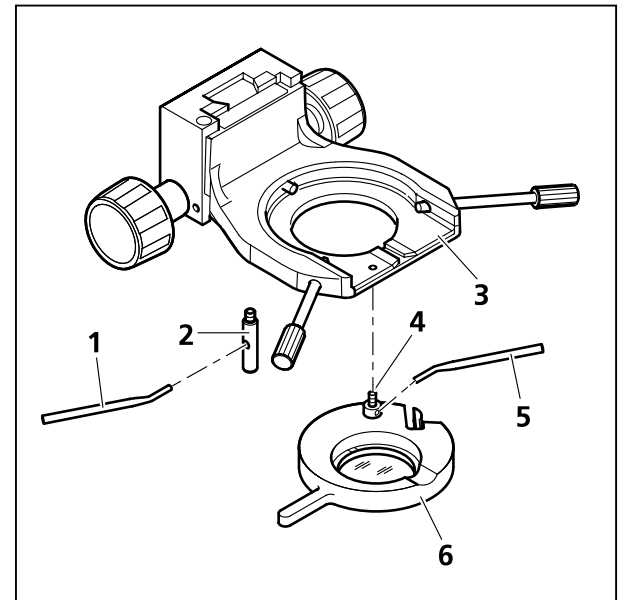

Fig. 3-47 Mounting the polarizer D
- For an easy assembly, remove the condenser carrier (Fig. 3-47/3) fully, with the stage carrier.
- Hold the polarizer or filter holder (Fig. 3-47/6) parallel to the bottom of the condenser carrier (Fig. 3-47/3) and screw the bracket bolt (Fig. 3-47/4) of the polarizer (Fig. 3-47/6) with the angled adjustment lever (Fig. 3-47/5) in to the front threaded opening at the left below the condenser carrier (Fig. 3-47/3) until it stops.
- Screw the stop bolt (Fig. 3-47/2) with the adjustment lever (Fig. 3-47/1) to the stop into the back threaded opening of the condenser carrier (Fig. 3-47/3).